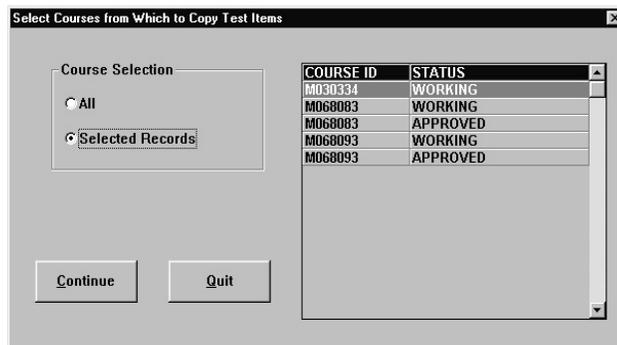

Figure 6-70. Select Courses From Which to Copy Test Items
1. From the Learning Objective Test Items for LO selection list box (Figure 6-63), click on **Copy**. The Select Courses from Which to Copy Test Items dialog box (Figure 6-70) opens.